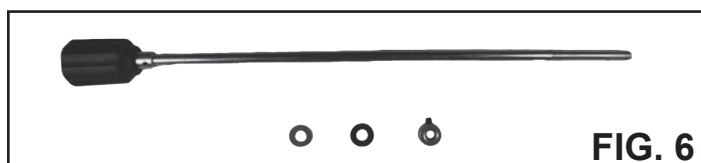

FIG. 6
2. Remove the Collar and Spring Washer from the infeed table's depth of cut adjustment Bar (#119). FIG. 6.